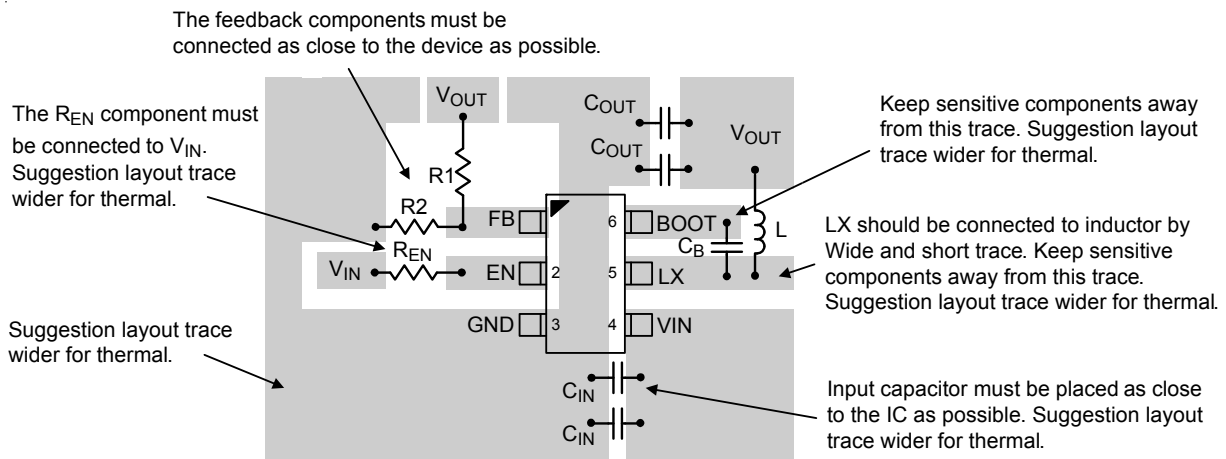

Figure 9. PCB Layout Guide for TSOT-23-6 package
- ▶ An example of the RT6254A/B PCB layout guide is shown in Figure 9 and Figure 10 for references.